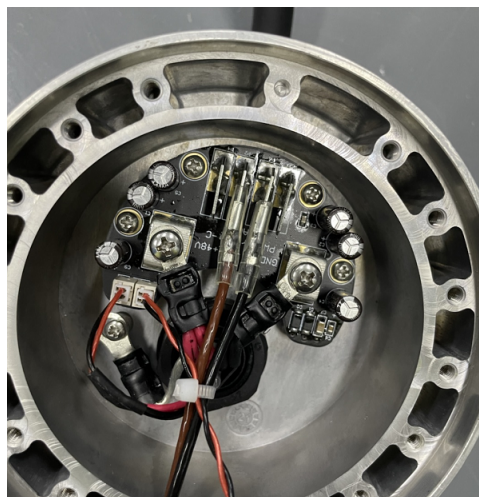

Figure 3-8: Connect the base joint line
1. As shown in **Figure 3-8**, place the base joint back into the base mounting bracket and reconnect the wires;